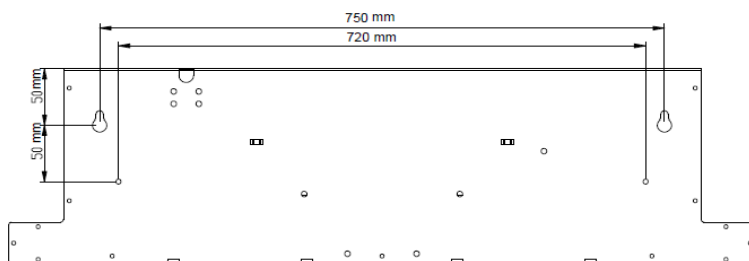

Fig. 11
- Drill 4 holes of $\varnothing 8\text{mm}$ on the wall, as illustrated below (Fig. 11).